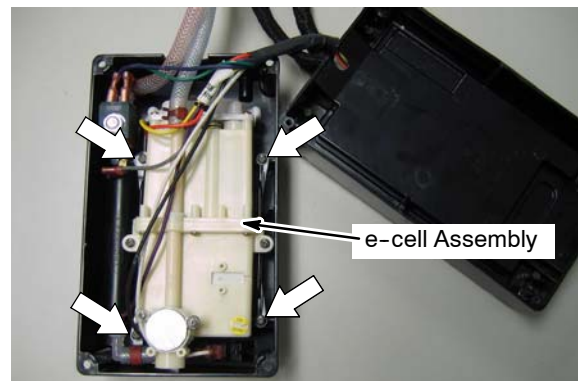

FIG. 3
3. Open the module to access the e-cell (Figure 3).
4. Remove the e-cell assembly from module housing. Four screws hold it in place (Figure 3).